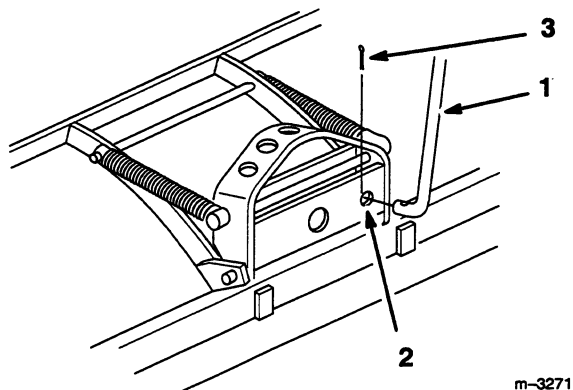

Figure 2
2. Insert the long end of the control rod up through the hole in the bottom plate of the channel weldment (Fig. 2). Insert a cotter pin and bend the ends of the pin to secure the rod.